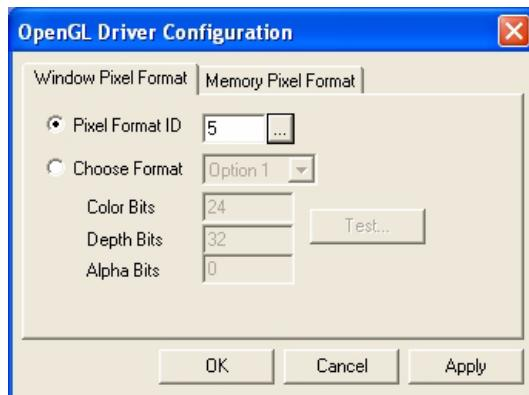

Figure 5-44:OpenGL Driver Configuration dialog box
4. In the OpenGL Driver Configuration dialog box (figure 5-44), select Pixel Format ID and enter this number.